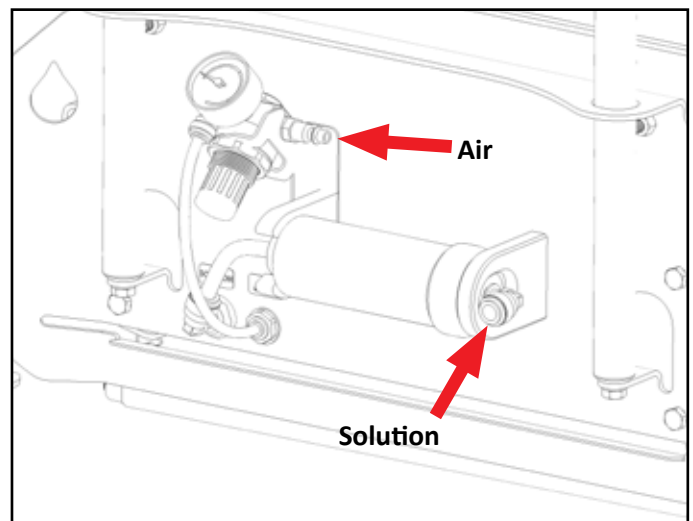

Fig. 6.3: Solution and air line quick fit connections
5. Using 1/4" industrial quick-disconnect, connect compressed air supply to the air regulator on the side of the unit (80 PSI recommended) [Figure 6.3].